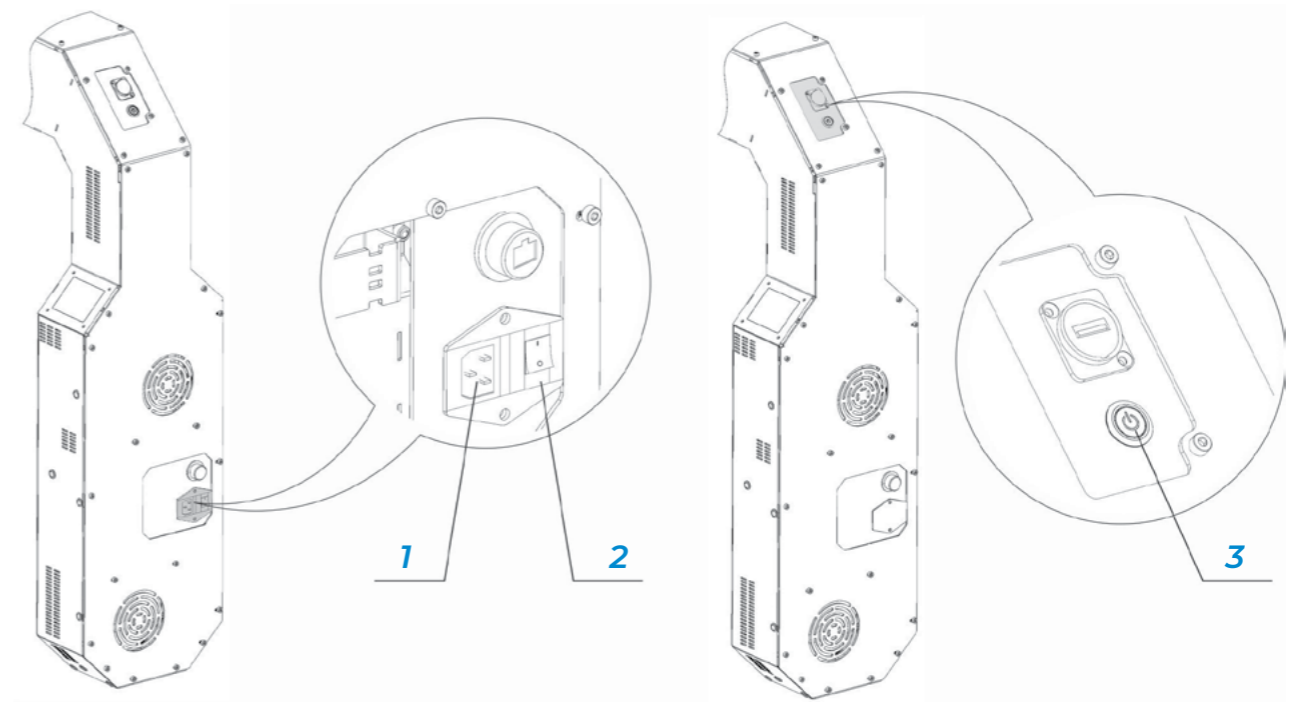

Fig. 6 Device power up
Turn on the station after assembly and installation. Plug the power cord (included in the package) into the connector located on the back panel (#1, Fig. 6). Connect the station to the power outlet.
1. Toggle the power switch into the ON position (#2, Fig. 6);
2. Press the power button (#3, Fig. 6);
1. Press the power button (#3, Fig. 6);
3. Toggle the power switch into the OFF position (#2, Fig. 6).